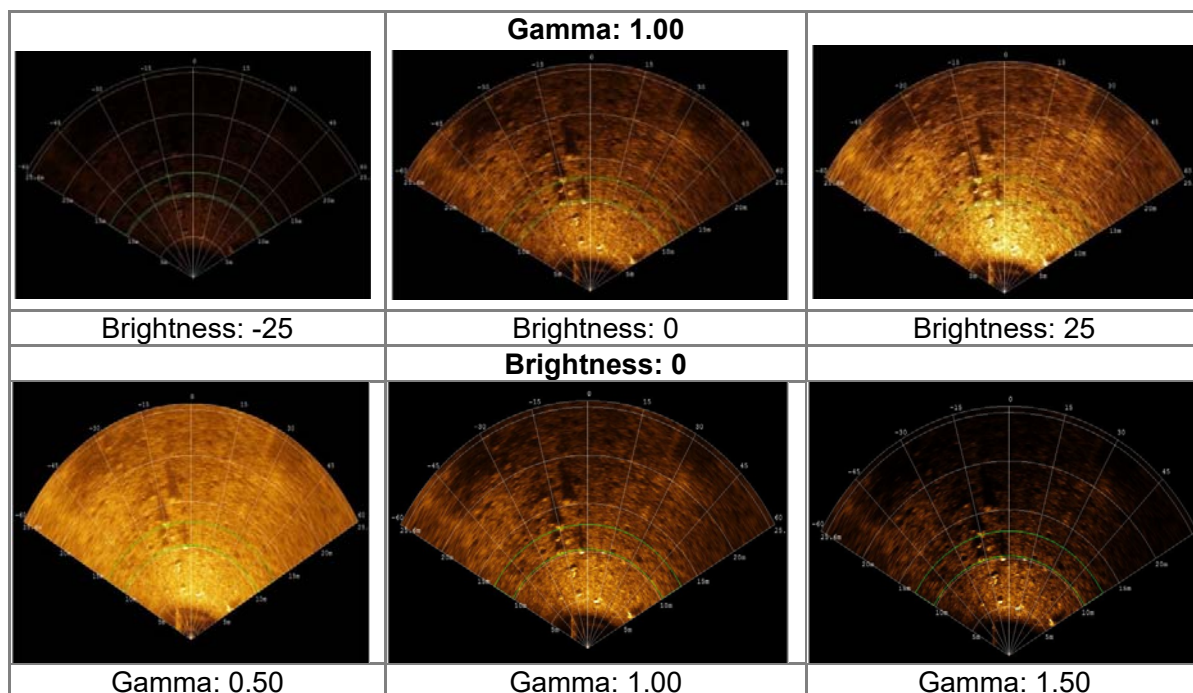

Figure 79. Brightness and Gamma Rendering Effects
- Watch the intensity of the PPI and mosaic change for the entire swath currently being mosaicked (Figure 79).
- Changing the gamma value enhances light or dark tones (Figure 79).